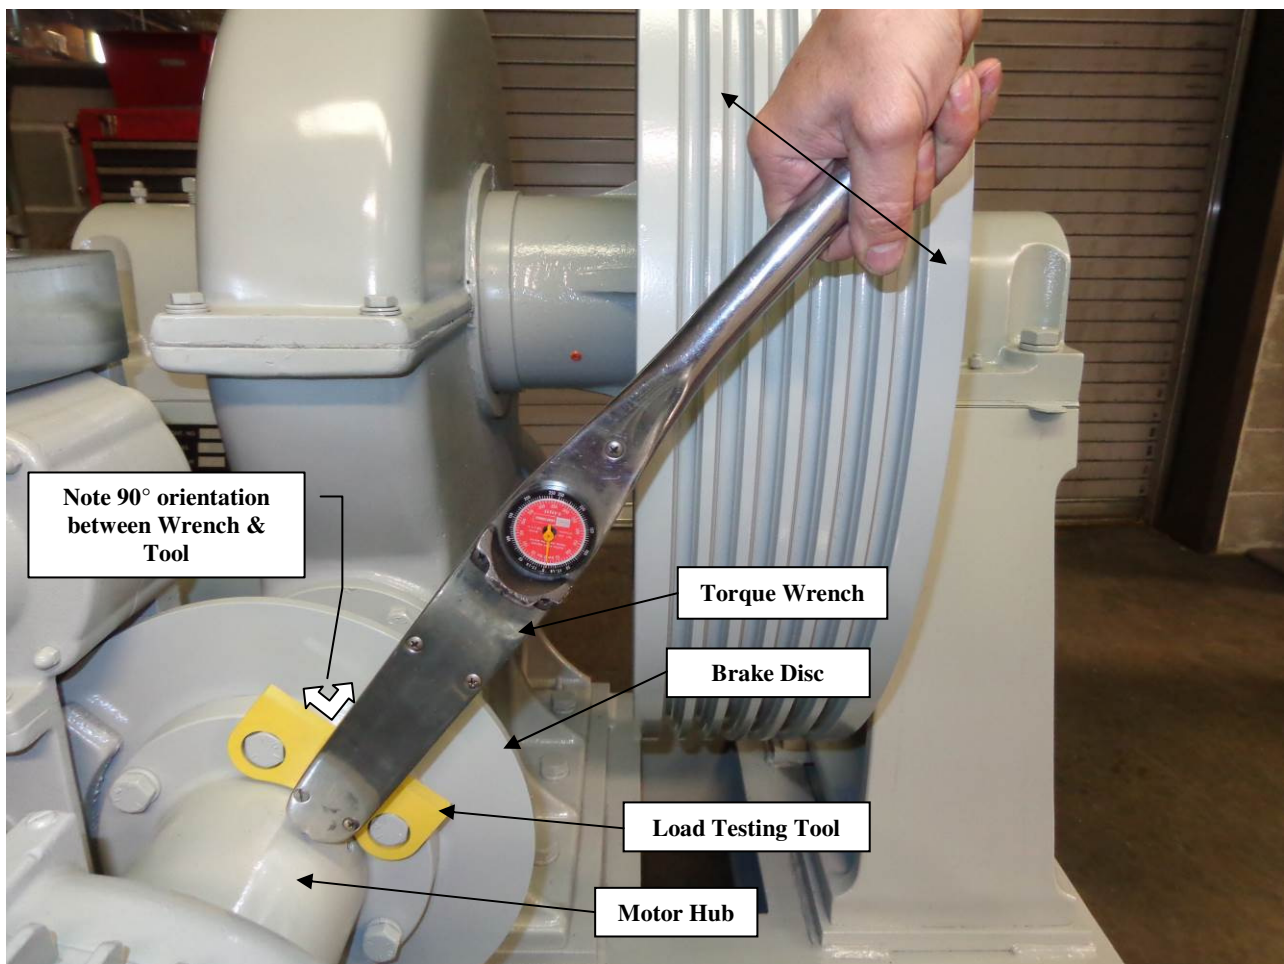

Figure 1 – Tool Placement: Disc Brake Testing, Drum Brake Similar, See Figure 3
- Refer to Figure 1. Place appropriate Load Testing Tool over 2 bolt **heads** (this may be on the motor hub side, or on the machine side) of the machine shaft assembly.
- Refer to Figure 1. Place appropriate Load Testing Tool over 2 bolt heads (this may be on the motor hub side, or on the machine side) of the machine shaft assembly.